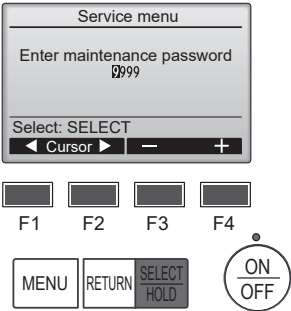

Fig. 7-2
- ① Select “Service” from the Main menu, and press the [SELECT/HOLD] button.
② When the Service menu is selected, a window will appear asking for the password. (Fig. 7-2)